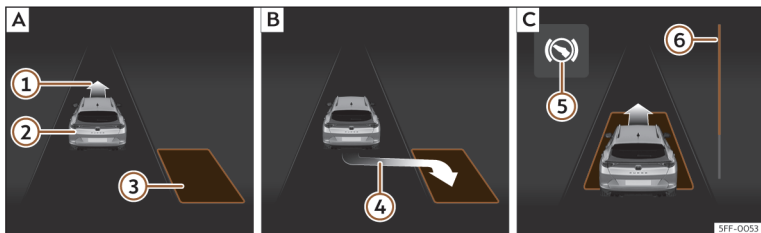
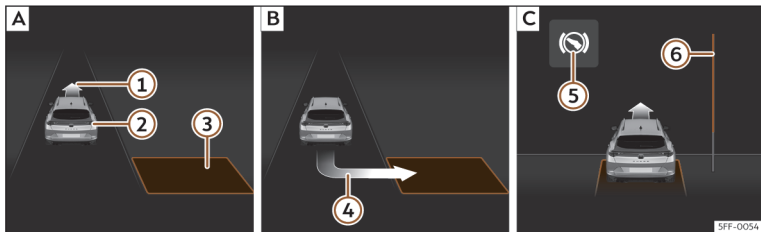

Fig. 152 On the instrument cluster display: parallel parking. **A**: Finding a parking space **B**: Parking position. **C**: Manoeuvring.
Fig. 153 On the instrument cluster display: angle parking. **A**: Finding a parking space **B**: Parking position. **C**: Manoeuvring.
- Look at the instrument cluster screen to see if the space has been detected as “appropriate” and if the correct position for parking has been reached >>> **Fig. 152 B** or >>> **Fig. 153 B**. The space is considered “appropriate” if the instrument cluster display shows the parking indication ④.
- Reverse until the continuous ParkPilot signal sounds; **OR:** reverse until the indication to move forward appears on the instrument panel display >>> Fig. 152 [C] or >>> Fig. 153 [C]; **OR:** reverse until the **Park Assist finished** message appears on the instrument cluster display. The progress bar [6] indicates the distance to cover.
- Move forward until the continuous ParkPilot signal sounds; **OR:** move forward until the reverse indication appears on the instrument panel display. The Park Assist system steers the vehicle forward and back until it centres it in the space >>> Fig. 152 [C] or >>> Fig. 153 [C].
The progress bar >>> Fig. 152 [6] and >>> Fig. 153 [6] on the instrument cluster display shows the relative distance to be covered as a symbol. The greater the distance, the fuller the progress bar. When driving forward, the content of the progress bar decreases upwards, and when reversing, it decreases downwards.